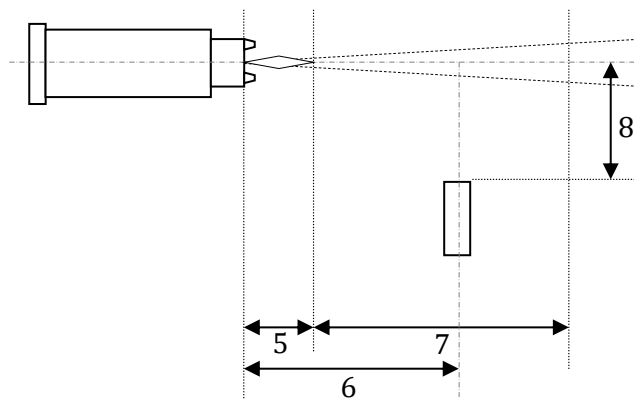

FIGURE 8 CSM EVOLUTION INSTALLATION DRAWING
Step 7. Position sensor head **100 mm** (8) (60mm on old system) from the plume axis (4).
Step 8. It is not necessary to take the reference measurements at the exact same stand-off you use for coating, as long as you keep the reference distance (6) constant over time. See Figure 8 CSM eVOLUTION installation drawing.